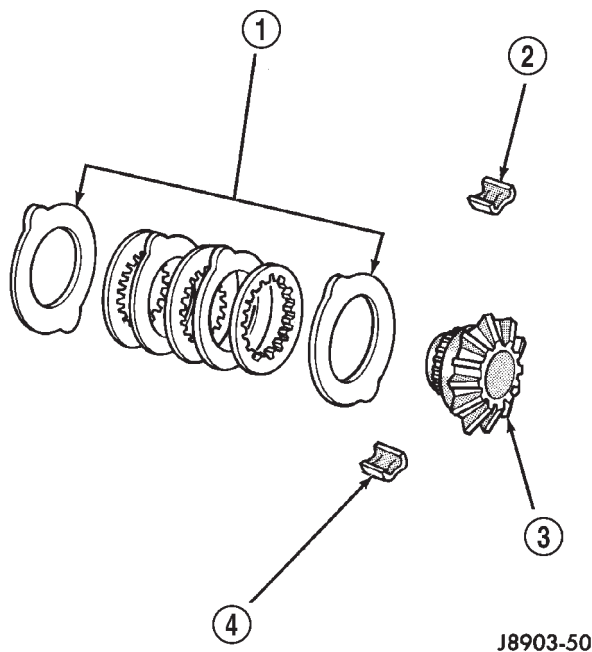

Fig. 61 Clutch Disc Pack
(1) Assemble the clutch discs into packs and secure disc packs with retaining clips (Fig. 61).